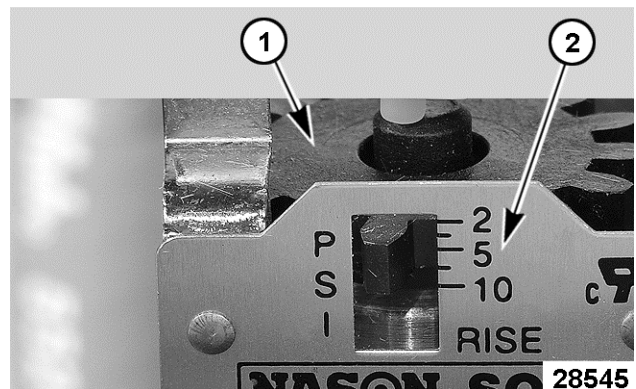

Fig. 77
- C. If pressure switch is being replaced, make an initial pressure switch setting by aligning the top surface of adjustment wheel [1] Fig. 77 with the 5 psi reference scale mark [2] Fig. 77 on pressure switch.